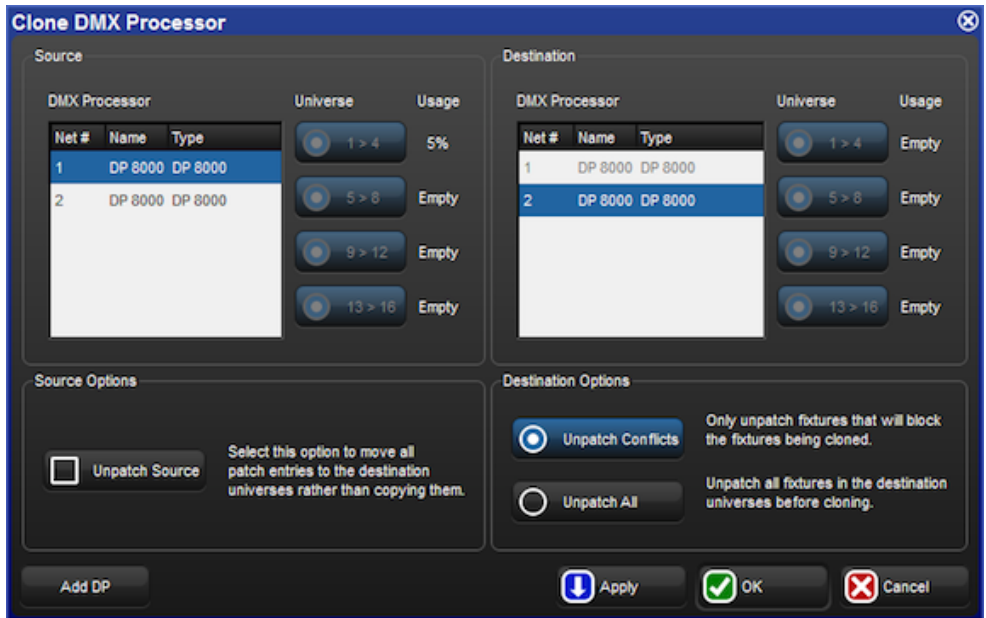

Figure 5.7. The Clone DP window
3. Press Clone DP. The Clone DMX Processor window will open; see *Figure 5.7, "The Clone DP window"*.